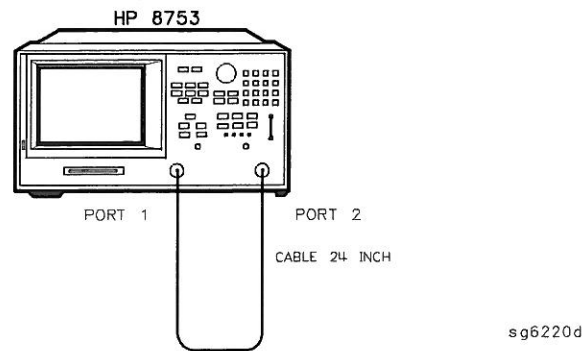

Figure 1-48. Test Port Phase Compression Test Setup
- 1. Connect the equipment as shown in Figure 1-48.